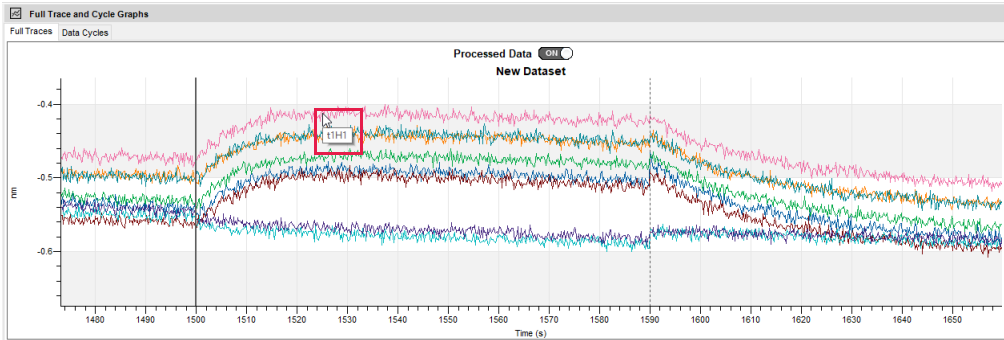

Figure 2-24: Show Series Name on Tooltip Selected
- **Show Series Name on Tooltip** - Checking or deselecting this box shows (Figure 2-24) or hides the tooltip when you hover over a trace on the graph.